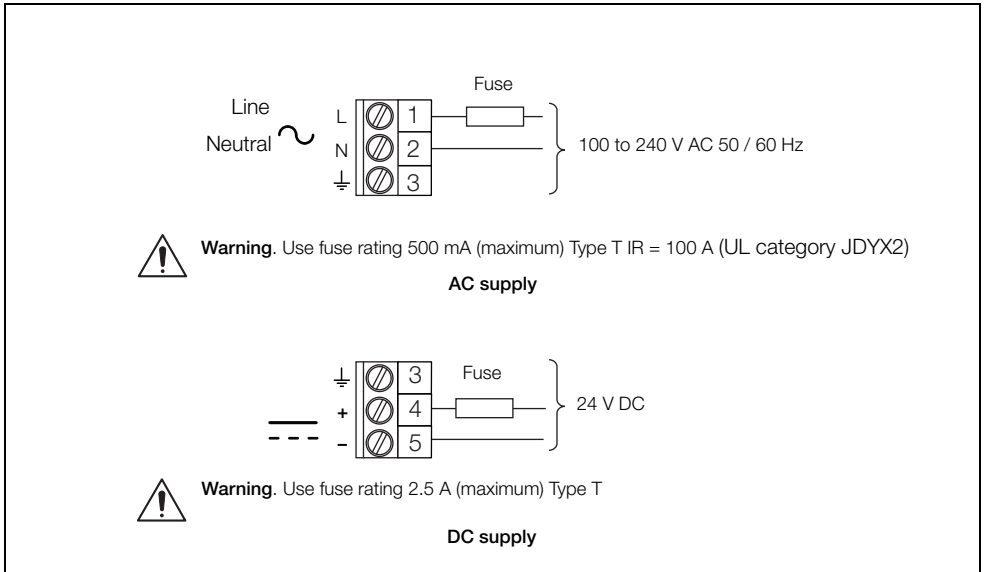

Fig. 3.7 Power supply connections
- The recorder is not fitted with a switch therefore a disconnecting device such as a switch or circuit breaker conforming to local safety standards must be fitted to the final installation. It must be fitted in close proximity to the recorder within easy reach of the Operator and must be marked clearly as the disconnection device for the recorder. A fuse must be fitted in accordance with Fig. 3.7, page 19.